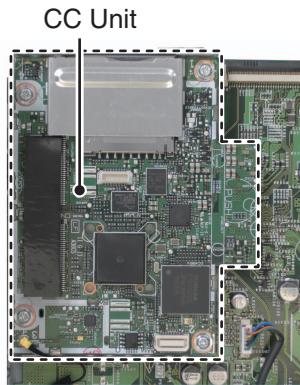

Fig.17
- ➔ 2 Remove the four screws and then remove the CC Unit.(Fig.17)